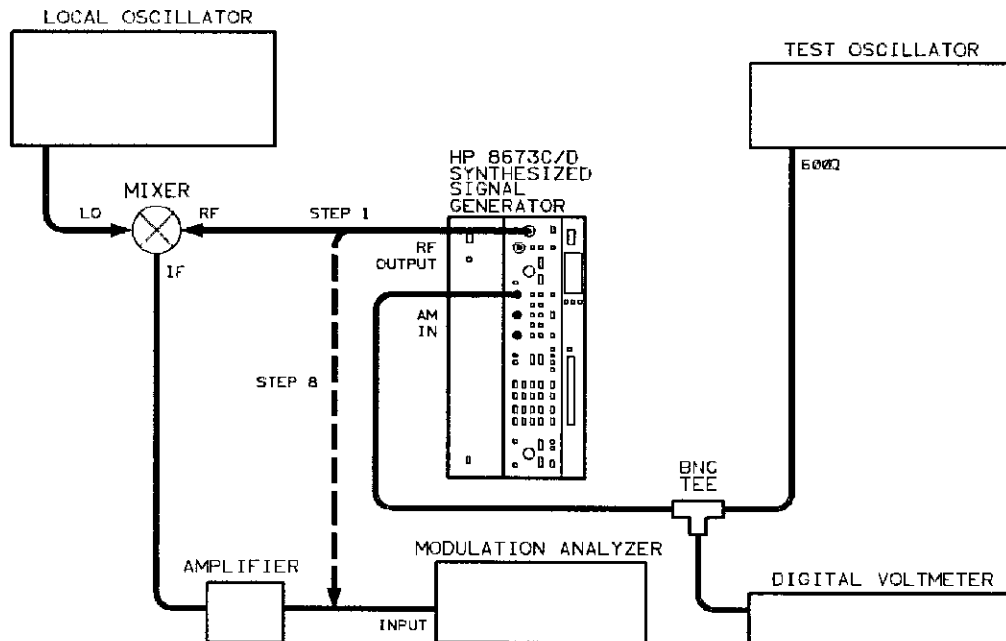

Figure 5-44. AM Accuracy and Meter Adjustment Test Setup
**Procedure** 1. Connect the equipment as shown in figure 5-44.